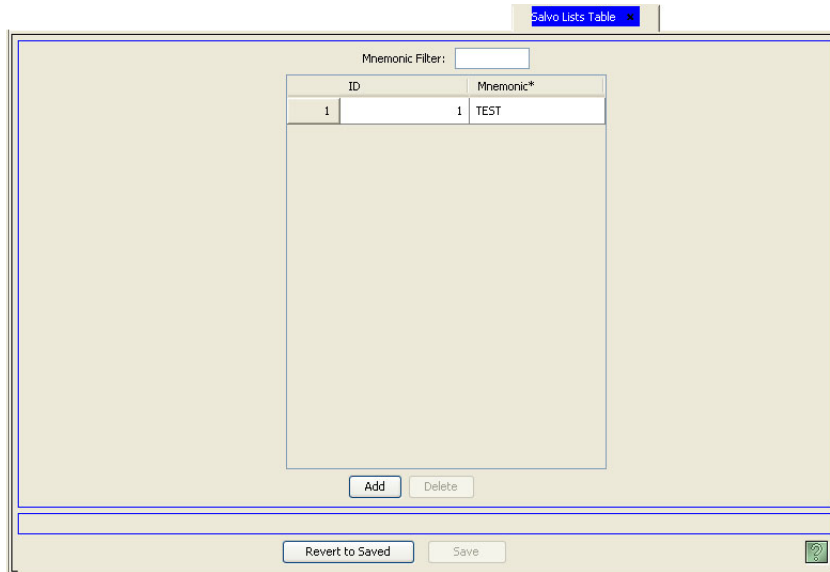

Figure 15-14. Salvo List Table
- 2 From the Navigation area, select the 'Views' pane and then 'Salvo List'. The 'Salvo List' table appears, as shown in Figure 15-14.